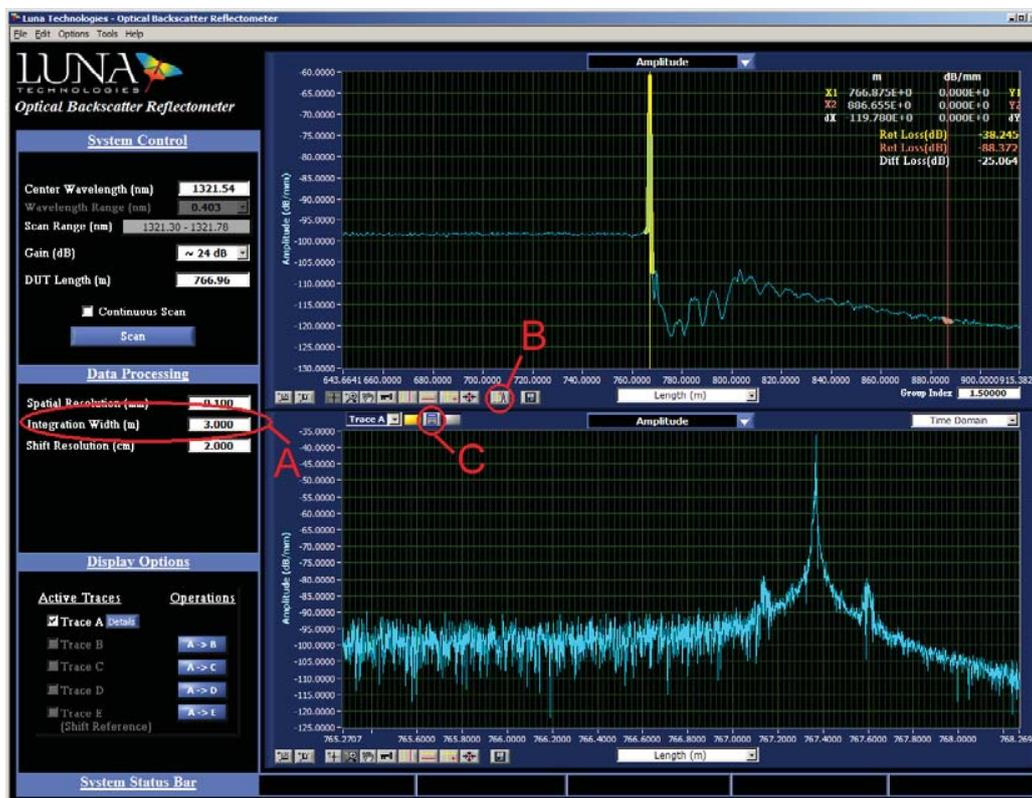

Figure 9: OBR analysis software showing integration width entry field (A), find peak feature (B), and calculate lower graph (C)
iii. In the “Integration Window” field (labeled ‘A’, Figure 9), enter a length such that the highlighted region encompasses the peak.
iv. Click on the “Find Peak” button (labeled ‘B’, in Figure 9). This will center the integration window on the peak of interest. An approximate value of the peak location may be obtained from the color-coded menu to the right, top corner of the upper graph.
v. A more accurate measurement may be obtained by moving the highlighted data to the lower graph, where the data subset will be displayed at maximum resolution. To do this, click on the “Calculate” button (labeled ‘C’, Figure 9).